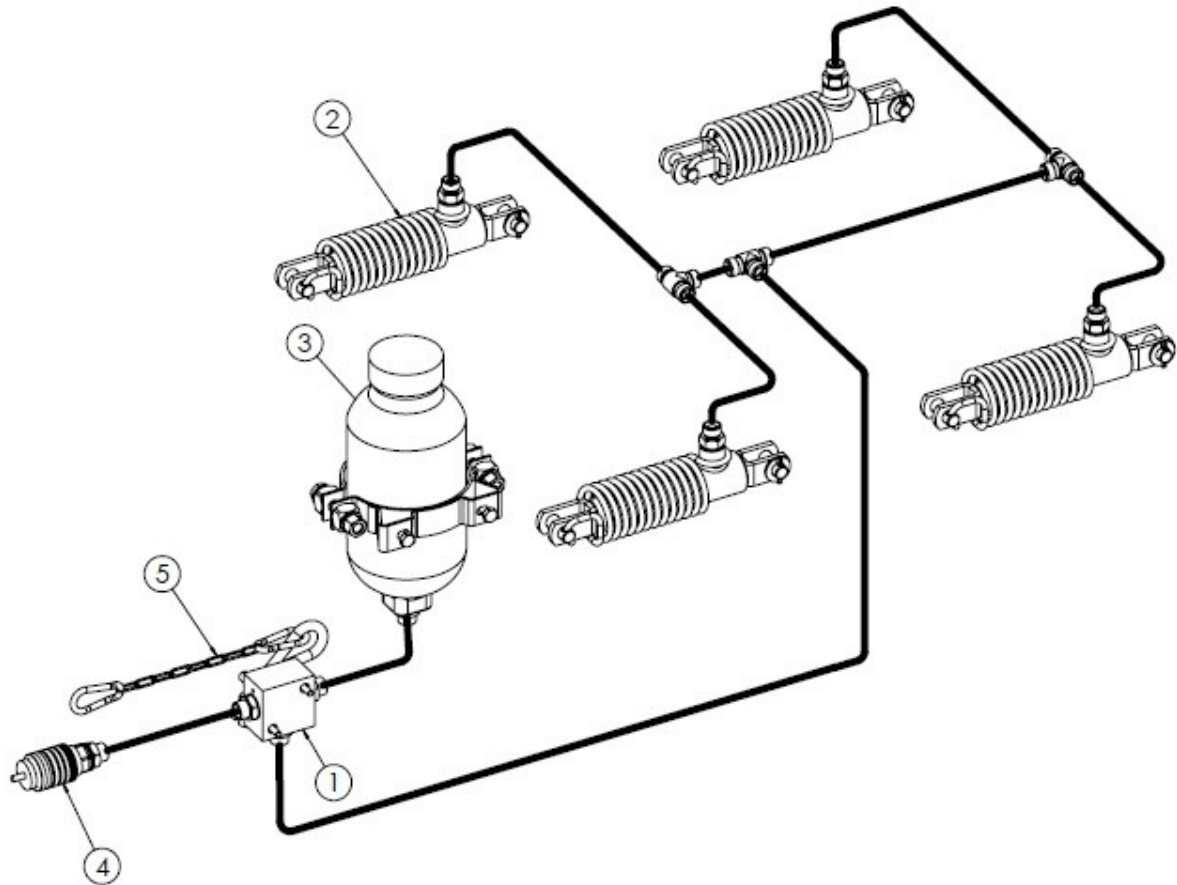

Figure 12 The 1-line hydraulic braking system
- single-line hydraulic braking system (Figure 12)
The spreader can be optionally equipped with a hydraulic single-line braking system - Figure 12.